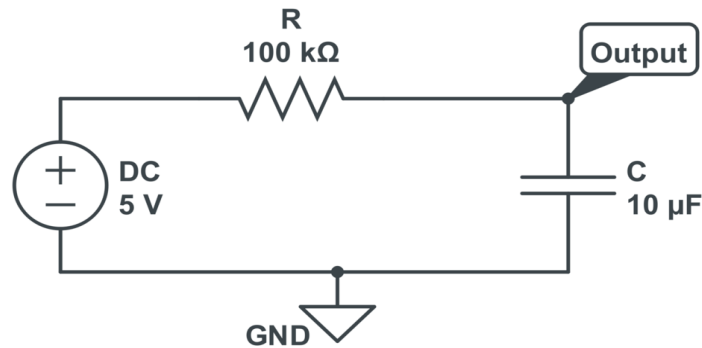

Figure 1: Schematic representation of an RC circuit.
- Check the RC (time-constant) while charging and discharging. Connect a Resistor of $100\text{ k}\Omega$ and a capacitor of $10\text{ }\mu\text{F}$ as shown in the Figure 1. Note that this capacitor has a long terminal which is positive and short terminal which is the negative polarity.